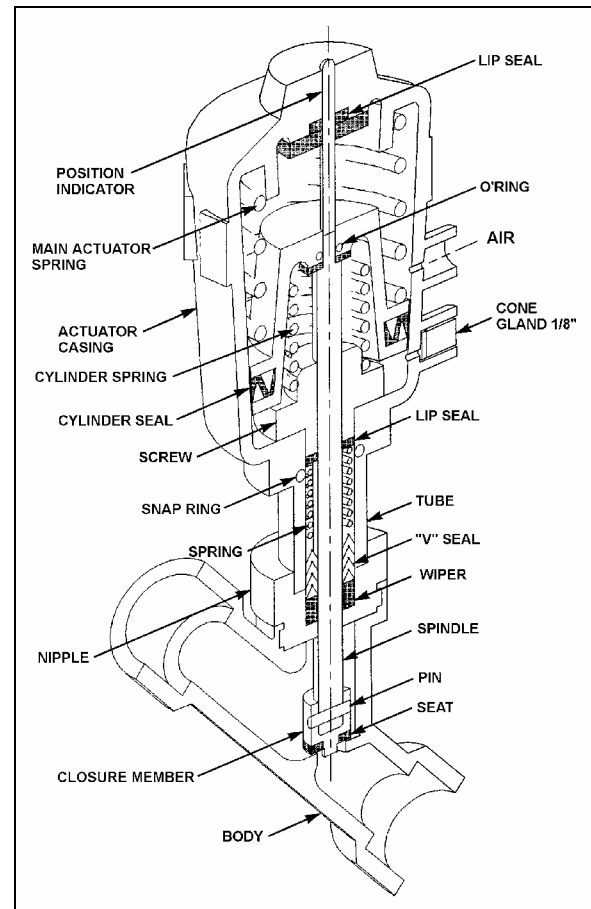

FIGURE 54: PNEUMATIC WATER VALVE 22241
2. The water valve need not be removed from the line. Unscrew nipple, the actuator casing, tube, spindle and closure member can be removed (Fig. 54).
2. Tighten the nipple in place in the body cavity as per figure 54. Fasten pilot solenoid valve to the pneumatic water valve. Reconnect air supply pressure and electrical current to the pilot solenoid valve.